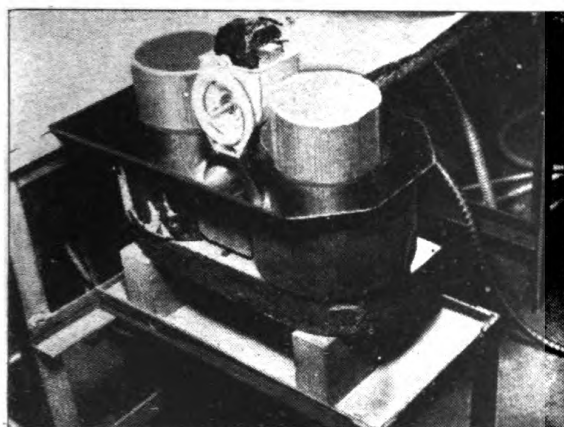

Fig. 45. Recharging Magnet in Magneto Frame
- (a) Place the magneto in the field of the charging coil. Fig. 45.
- (b) Recharge the magnet in the frame. Fig. 45.